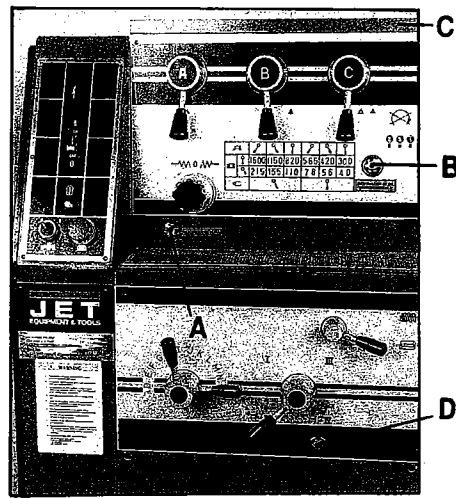
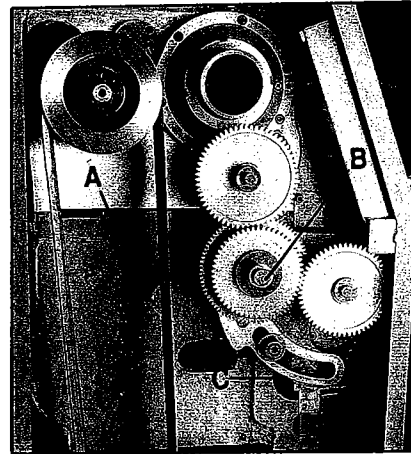
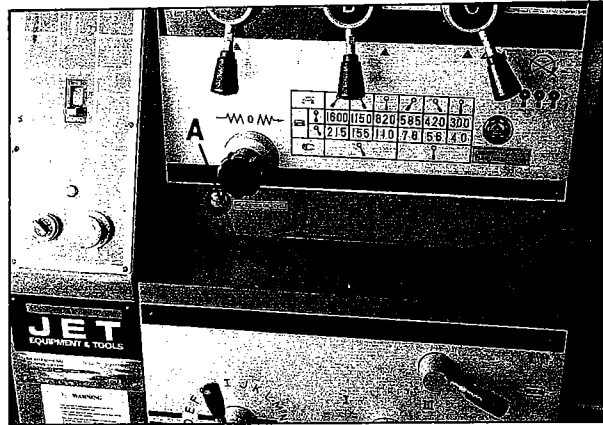

Fig. 2
Fig. 3
Fig. 4
1. **Headstock** - Oil must be up to indicator mark in oil sight glass (A, Fig. 2). **Caution:** Do not confuse oil sight glass with the oil flow indicator (B, Fig. 2) Top off with Shell Turbo T-68 or equivalent. Fill by removing headstock cover (C, Fig. 2). To drain, remove drain cap (A, Fig. 3). Drain oil completely and refill after the first three months of operation. Then, change oil in the headstock annually.
2. **Quadrant** - Open end gear cover and remove plug (B, Fig. 3). Fill hole with #2 tube grease monthly.
3. **Feed Gearbox** - Oil must be up to indicator mark in oil sight glass (D, Fig. 2) Top off with Shell Turbo T-68 or equivalent. To add oil to the gearbox, remove red plug (A, Fig. 4) under speed chart lid and add through hole. To drain, remove drain plug (C, Fig. 3). Drain oil completely and refill after the first three months of operation. Then, change oil in the gearbox annually.